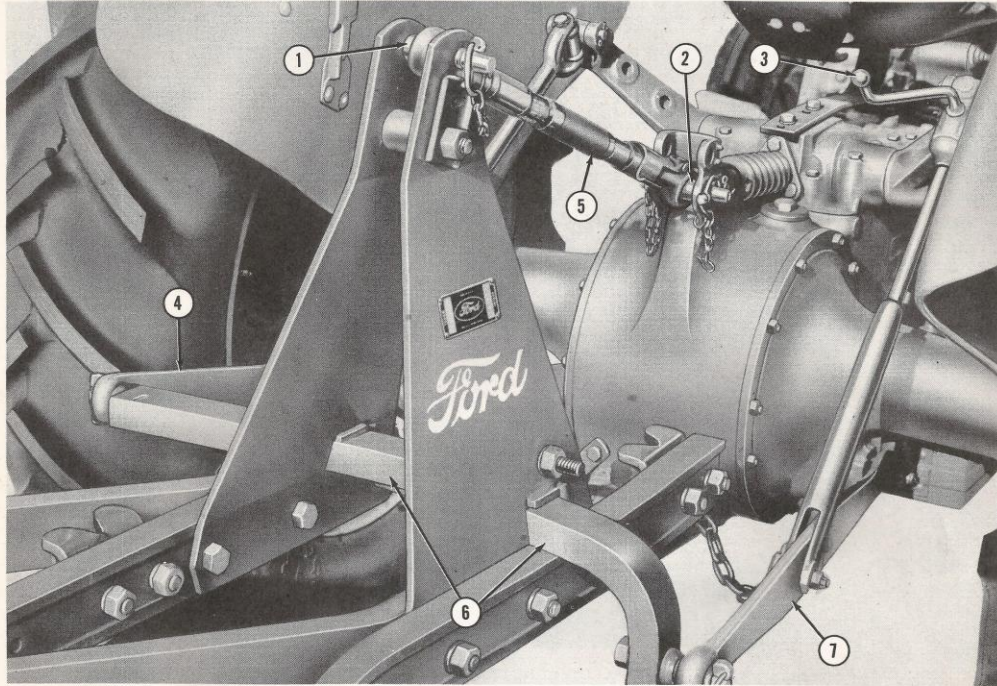

Figure 25
1. Back the tractor up to the plow frame so that the lower links (4) and (7), Figure 25, are aligned with the plow cross shaft (6) as shown.
- a. Turn the adjusting crank (3), Figure 25, to align the right tractor link (7) with the right side of the cross shaft (6).
- b. Attach the lower links (4) and (7), Figure 25, to each end of the cross shaft and secure with the linch pins provided. Attach the left link first.
- c. Attach the tractor top link (5), Figure 25, to the top of the A-frame with the pin (1) and linch pin.
- d. Attach the forward end of the top link (5), Figure 25, to the lower hole on the tractor rocker assembly with the pin (2) and secure with the linch pin provided.